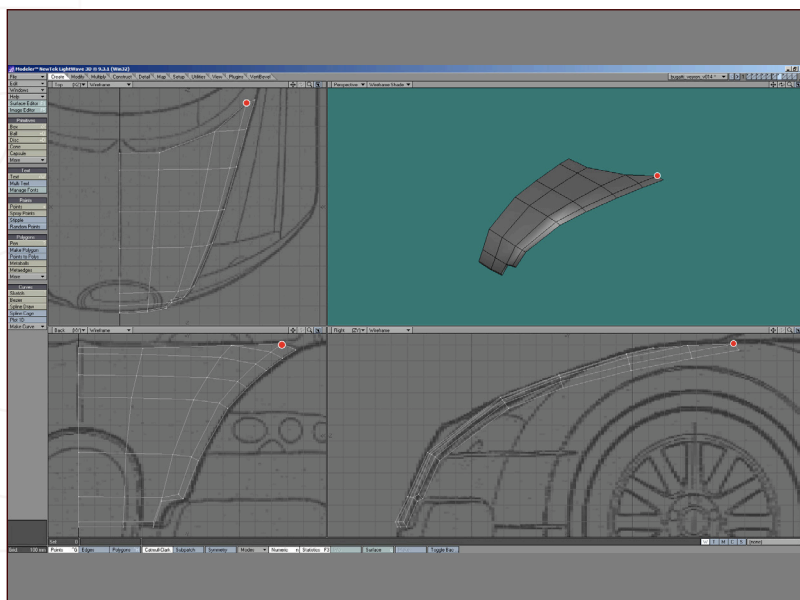

Fig 47
47. Indicated here is a point that has been welded from two, so as to provide a more pleasing corner. The point positions for the rounded edge have been tweaked and moved, best achieved by switching back and forth between polygon and subdivision modes (**Fig47**).